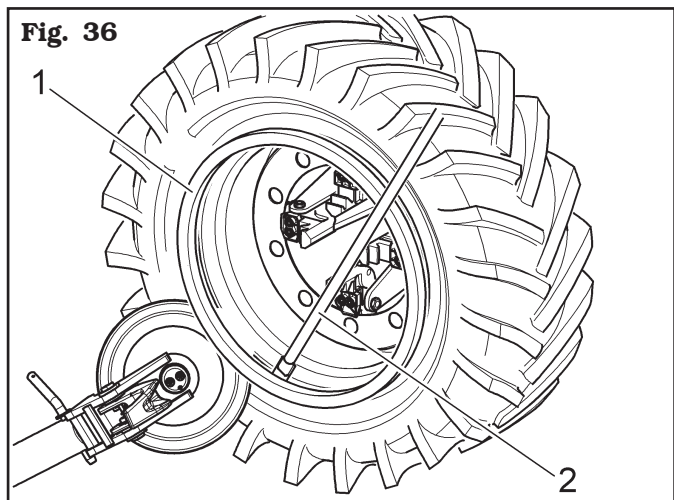

Fig. 36
- Repeat the operation, making the bead breaker disc move forward against the bead wire (see Fig. 36) up to the stop ring is released (Fig. 36 ref. 1). It will be then extracted through lever (Fig. 36 ref. 2).